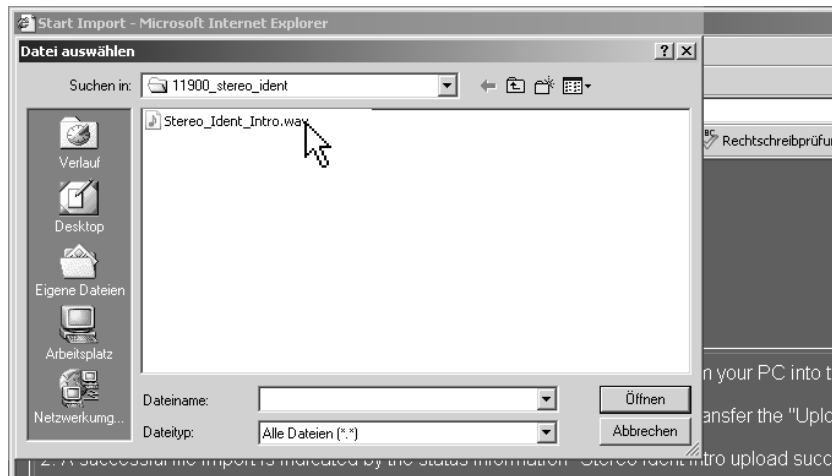

Fig. 8-33: The file selection dialog box (blitsIntro.wav)
4. Choose the folder (e. g.: C:\11900_BLITS) with the ident intro wave file and click the file e. g. **Stereo_Ident_Intro.wav** (see Fig. 8-33).